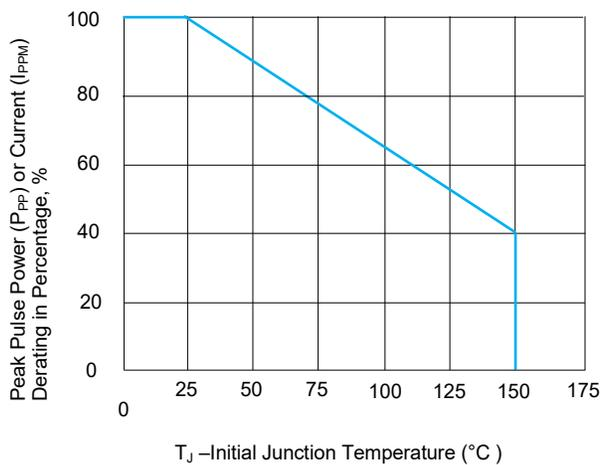
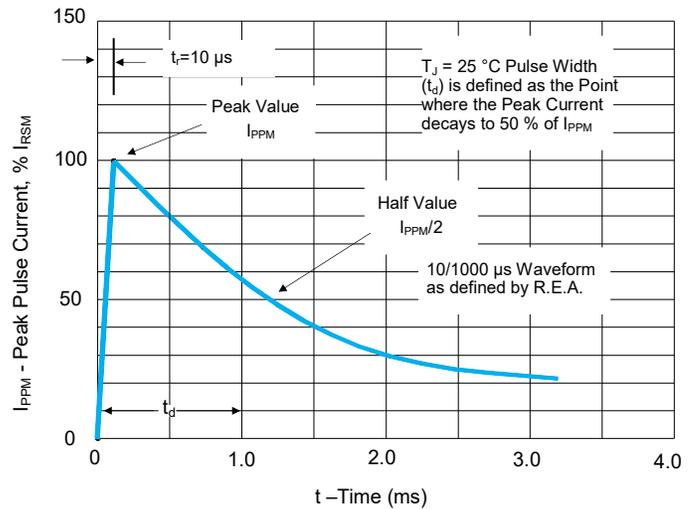

FIGURE 3 Peak Pulse Power Derating Curve
FIGURE 4 Pulse Waveform
1. Non-repetitive current pulse, per Fig. 4 and derated above  $T_J(\text{initial})=25\text{ }^\circ\text{C}$  per Fig. 3.